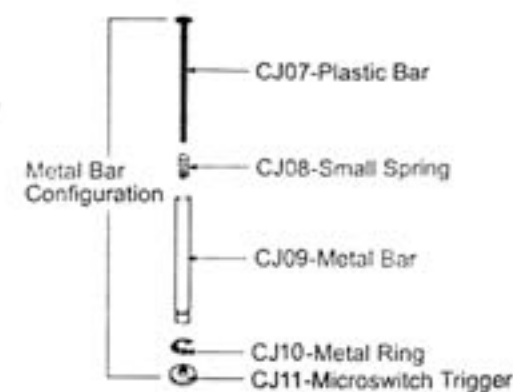

Figure 1
- 1) Metal Bar(CJ09) includes components of Microswitch Trigger(CJ11), Metal Ring(CJ10), Plastic Bar(CJ07) and Small Spring(CJ08). **Show as Figure 1**